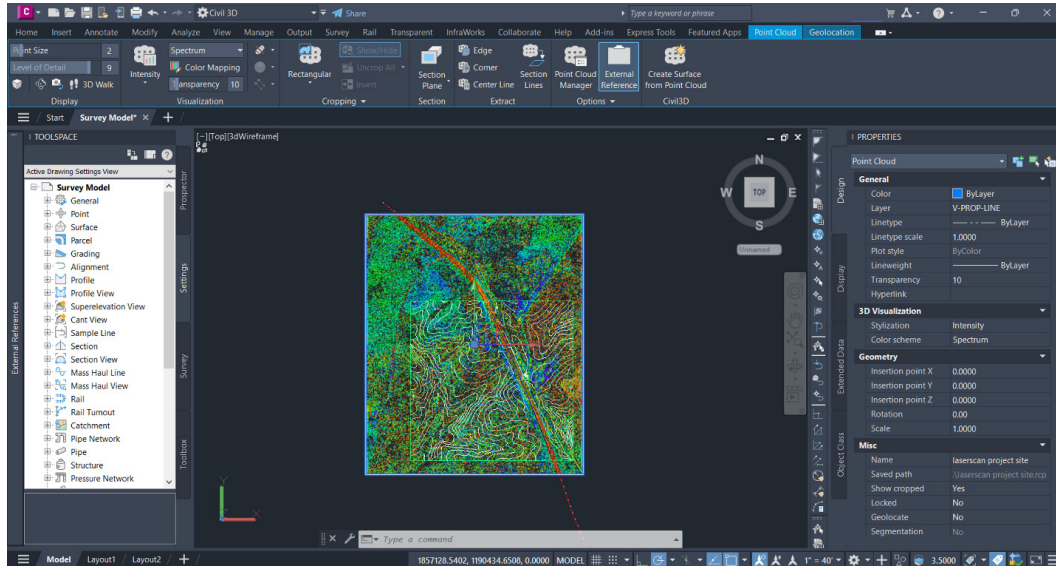

Figure 5.19 – Create Surface from Point Cloud
9. Finally, as we move from left to right, as we can see in *Figure 5.19*, on the **Point Cloud** contextual ribbon, we have the **Create Surface from Point Cloud** button. With our point cloud selected, let's click that button.